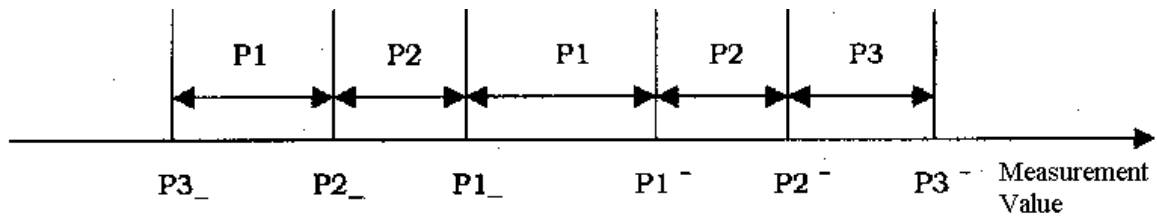

Figure 2-7 Tolerance Mode
**Tolerance Mode:** The tolerance mode specifies bin limits by the deviation from the specified nominal value. There are two methods used to specify the tolerance mode limits, the deviation in percent and by absolute deviation value. (Refer to Figure 2-7.)